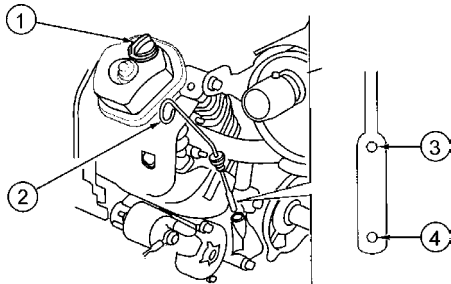
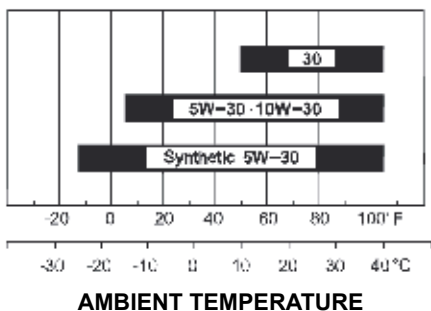

Figure 5. Engine Oil Dipstick
Figure 6. Recommended Viscosity Grades
1. Pull the engine oil dipstick (Item 2, Figure 5) from its holder.
To prevent extensive engine wear or damage, always maintain the proper oil level in the crankcase. Never operate the engine with the oil level outside of marks on dipstick, (Items 3 and 4 in Figure 5.)
3. If engine oil is low, remove oil filler cap (Item 1, Figure 5), and add correct amount of engine oil to bring oil level to a normal safe level. Use oil as recommended in Figure 6
1. Check the gearbox oil level in both gearboxes by removing the level plug and ensuring that the oil is at the correct level. See Figure 6.
2. Fill the gear box just to the level of the fill plug. (Figure 6) with Mobil ISO VG 640 SCH 634 oil if necessary..
2. Remove the oil filler cap (Figure 5, Item 1), and fill engine crankcase with recommended type oil as listed in Figure 6. Fill to the upper limit of dipstick.